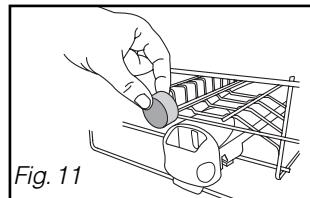
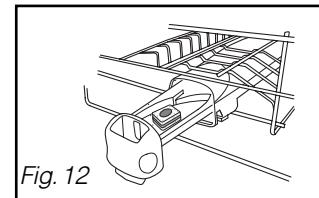

Fig. 11
Fig. 12
Non-multipurpose tablets should be placed in the external compartment (Fig 11) or, for optimum performance, pull out the dispenser drawer and lay the tablet inside (Fig 12).
- ***Place the tablet*** in the external compartment (Fig 11 on previous page) or, for optimum results, pull out the distributor's drawer and lay the tablet inside (Fig 12 on previous page).